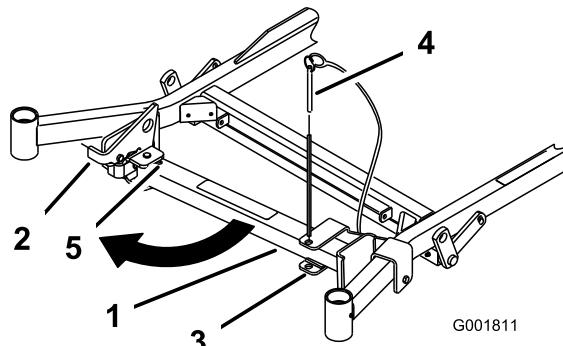
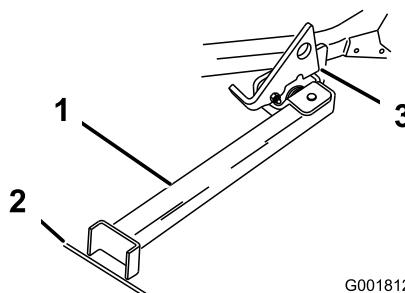

Figure 31
Figure 32
2. Remove the bracket pin (Figure 31).
3. Raise the latch. Swing the stand foot out front and slide stand toward machine, into the bottom of slot (Figure 31 and Figure 32).
- Set the foot of stand on the ground and rest the latch on the pivot tab (Figure 32).
- Note:** For best results, place the foot of stand into seams in sidewalks or into the turf (Figure 32).
- Drive onto the stand. Stop when the latch drops over the tab into the locked position (Figure 32). Once onto the stand, engage the parking brake and turn off the engine.
- Return the stand to its rest position (Figure 31).